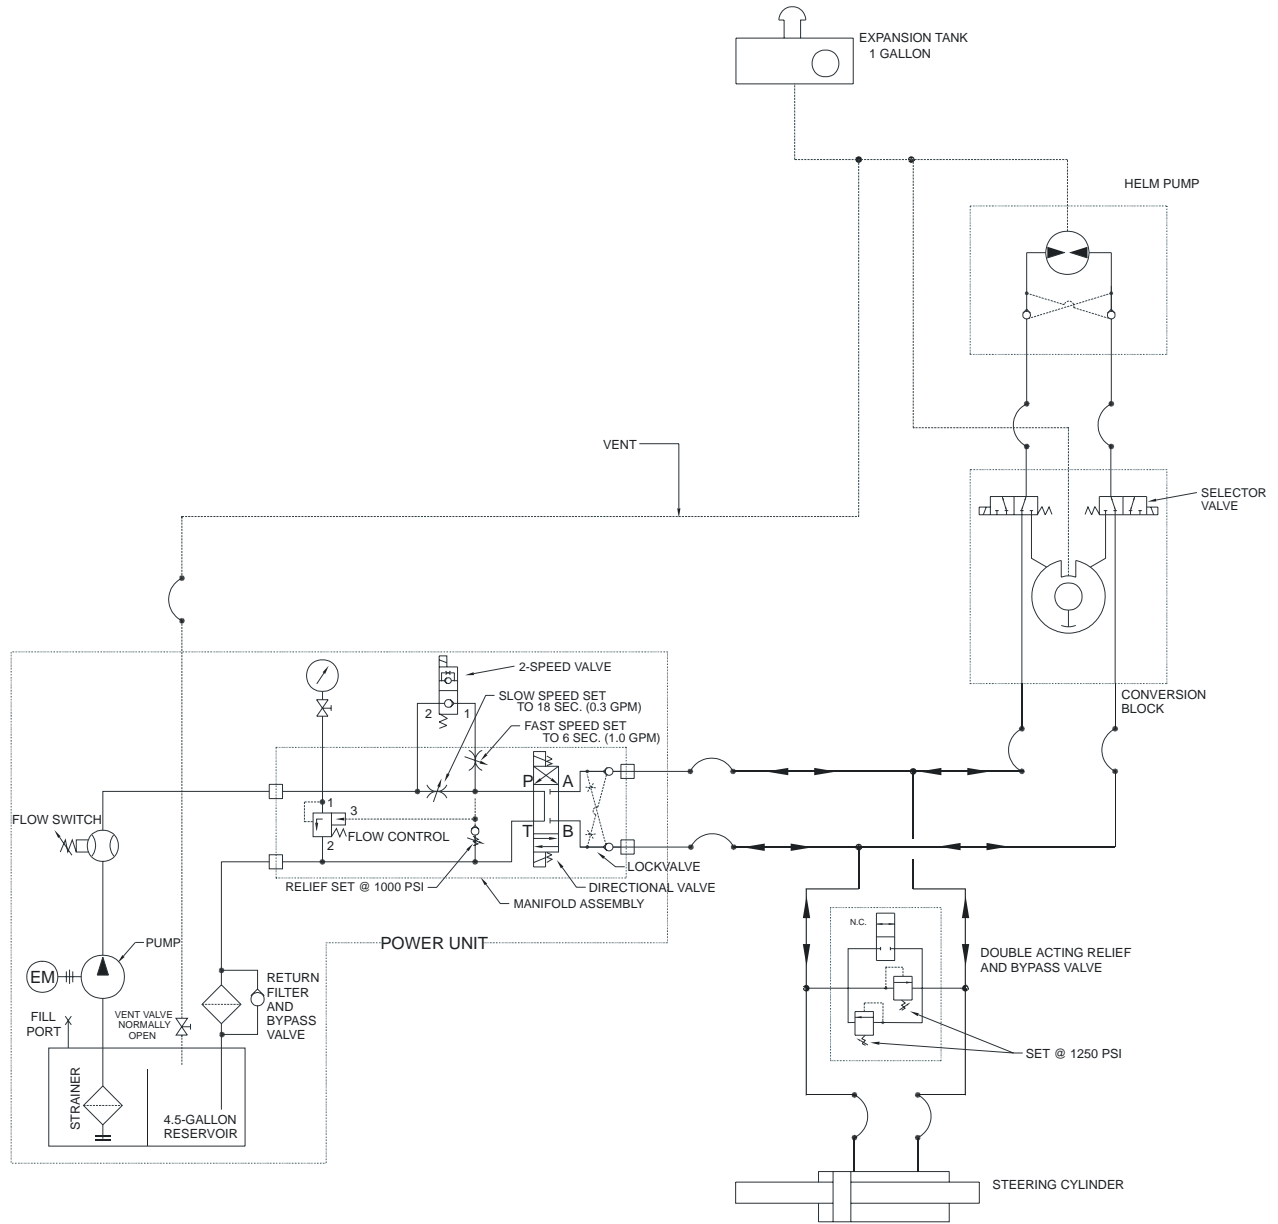

Figure 3-18
- E.1. General** The power steering system (**figure 3-18**) is hydraulically operated by the wheel at the forward pilothouse position and a follow-up lever mounted on the aft console in the pilothouse. The system is designed to move the rudders from 30 degrees port to 30 degrees starboard in no more than 6 seconds and hold the rudder at any setting, at any speed, in the *ahead* or *astern* position. The hydraulic steering system is made up of two circuits using a common reservoir. The hand-operated manual circuit is the control element and the power circuit provides high-pressure oil to the steering cylinder.